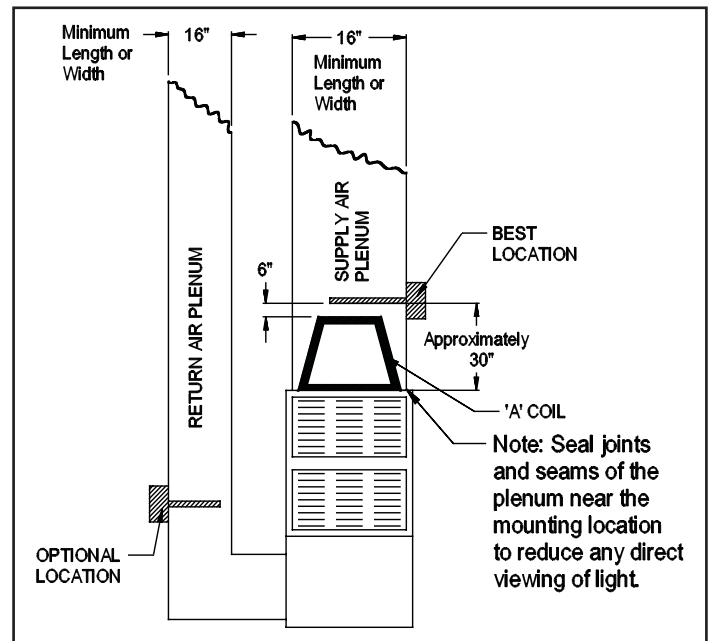

Figure 1
1. Locate a suitable location for the unit downstream from the 'A' coil in the supply plenum or in the return plenum; preferably downstream from the air filter. For optimum "cleaning" effect on the 'A' coil, mount the unit in the supply plenum as close as possible to the 'A' coil. (See Figure 1)